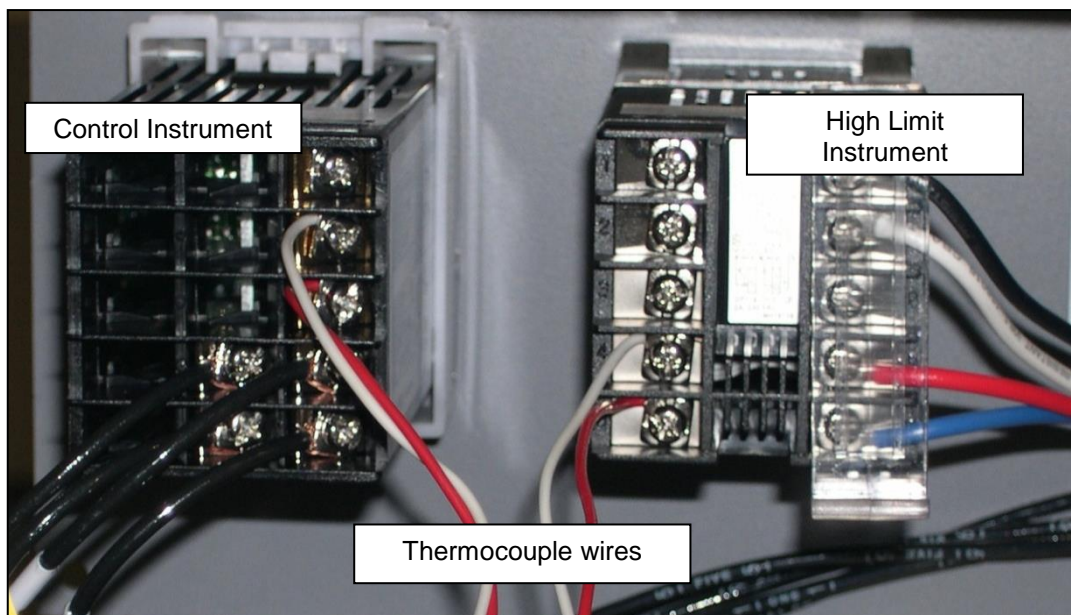

Figure 15. Remove old Control and High Limit Instruments and Wiring (Rear View).
4. Remove wires from the old control instrument (using P1 Phillips screwdriver), carefully noting which wires connect to which terminals (Figure 15).
4. Remove wires from the old High Limit instrument, carefully noting which wires connect to which terminals (Figure 15).
6. Disconnect the thermocouple wires (Figure 15).
11. Reattach thermocouple wires. Make sure that the wires are connected correctly. (Figure 15).